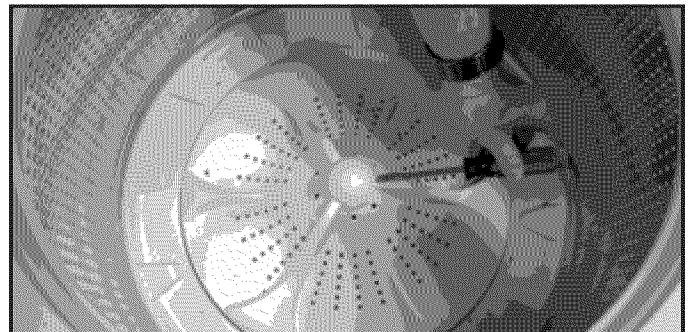

FIGURE 2
5. Remove cap from either wash plate or agitator. See *Figure 2*.